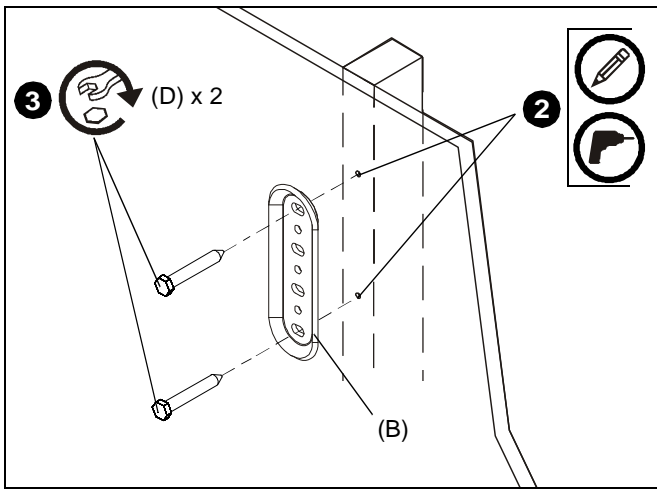

Figure 1
2. Using wall plate (B) as a template, mark then drill two 1/8" diameter pilot holes through top and bottom holes of wall bracket into wall structure. (See Figure 1)
3. Install two 3/8" x 3" hex head lag screws (D) through wall plate (B) and drywall into wood stud. (See Figure 1)
4. Ensure wall plate (B) is vertical, then tighten screws (D).